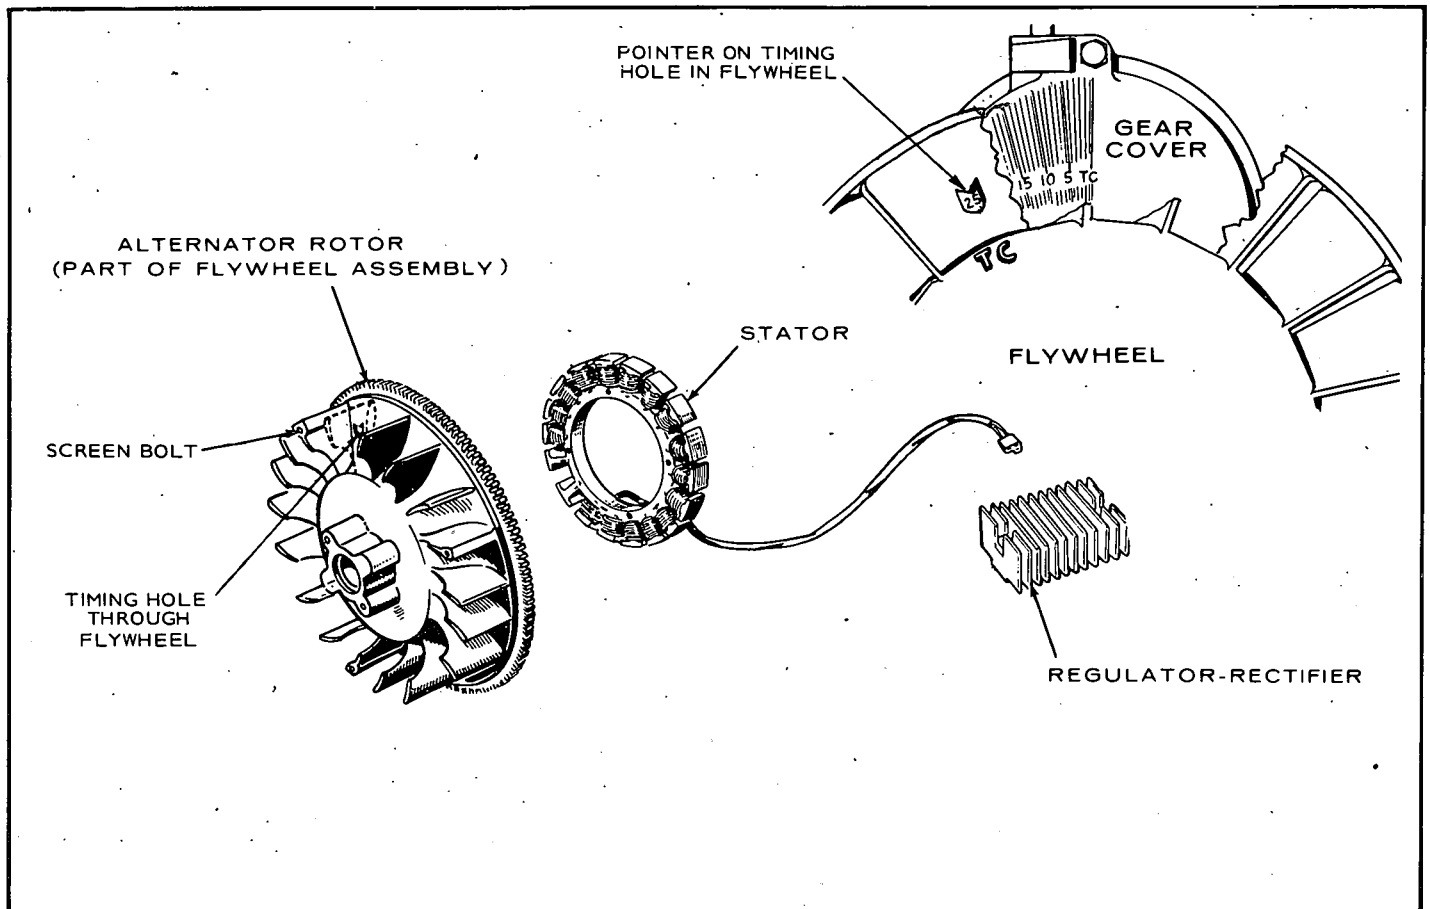

FIGURE 25. FLYWHEEL ALTERNATOR
2. Start the engine and check the timing. The pointer on the flywheel should line up with the 25° mark on the cover. The timing hole through the flywheel and the timing marks on the timing gear cover can be seen by looking through the flywheel blower screen. See Figure 25.